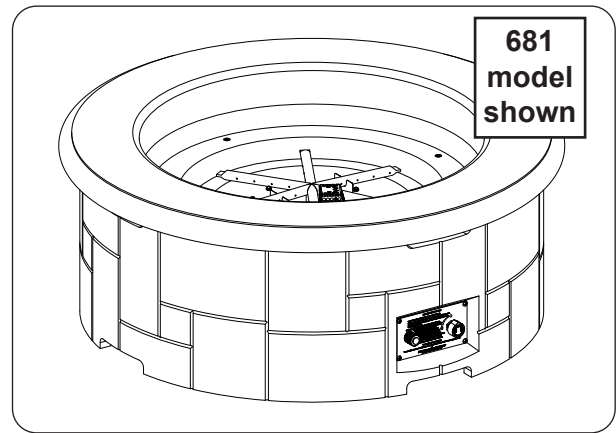

Fig. 32-1 Place unit
1. **CAREFULLY** place unit in an appropriate location (see Fig. 32-1, and refer back to the LOCATION section if needed).